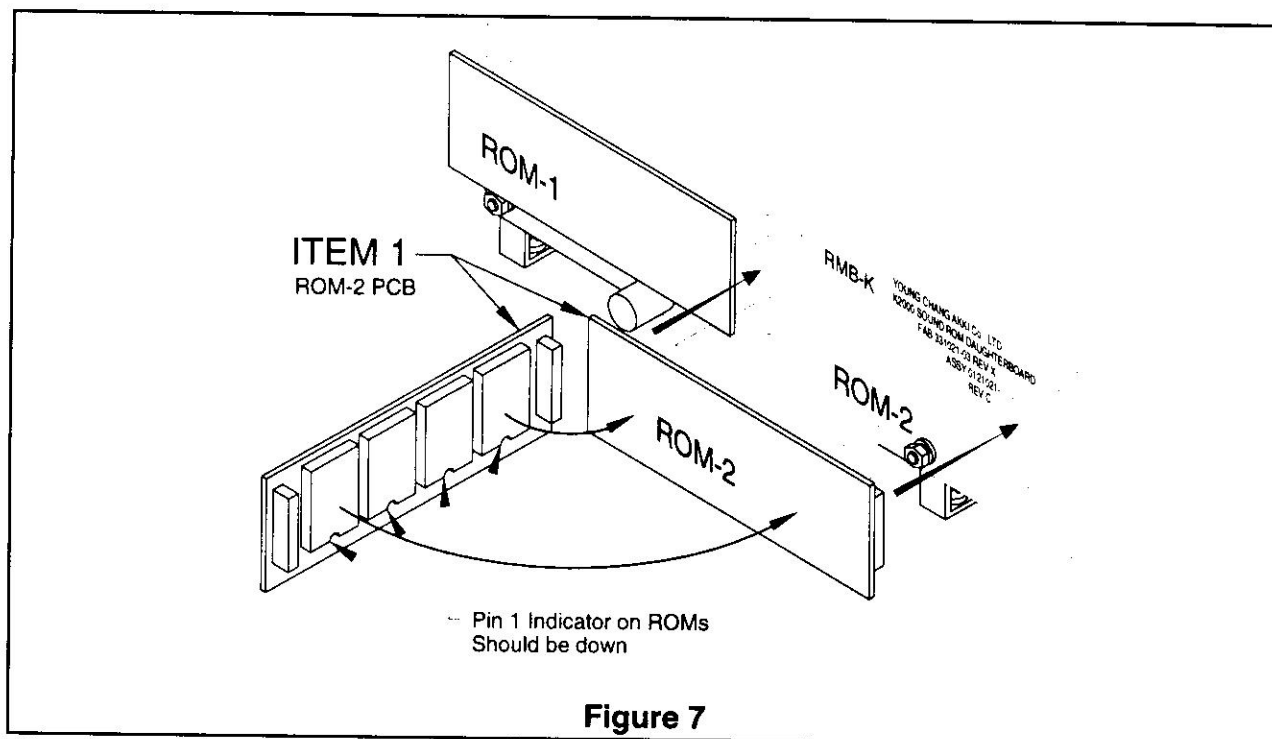

Figure 7
8. See Figure 7. Install Item 1, the ROM-x PCB, into the unused pair of connectors on the RMB-K Daughter Board by pushing the two connectors on both sides of the ROM board simultaneously into the matching two connectors on the RMB-K Daughter board. **The notch indicating pin one on all four of the masked ROMs should be facing down.**
NOTE: The connectors on both the RMB-K Daughter Board and the ROM board are keyed so that they can only be installed into their proper connectors. However, it is possible to install them upside down which may destroy the ROMs. *Be sure to install the ROM board with the notches indicating pin on the ROMs facing down as shown in Figure 7*
12. See Figure 7. Install Item 1, the ROM-x PCB, into the unused pair of connectors on the RMB-K Daughter Board by pushing the two connectors on both sides of the ROM board simultaneously into the matching two connectors on the RMB-K Daughter board. **The notch indicating pin one on all four of the masked ROMs should be facing down.**